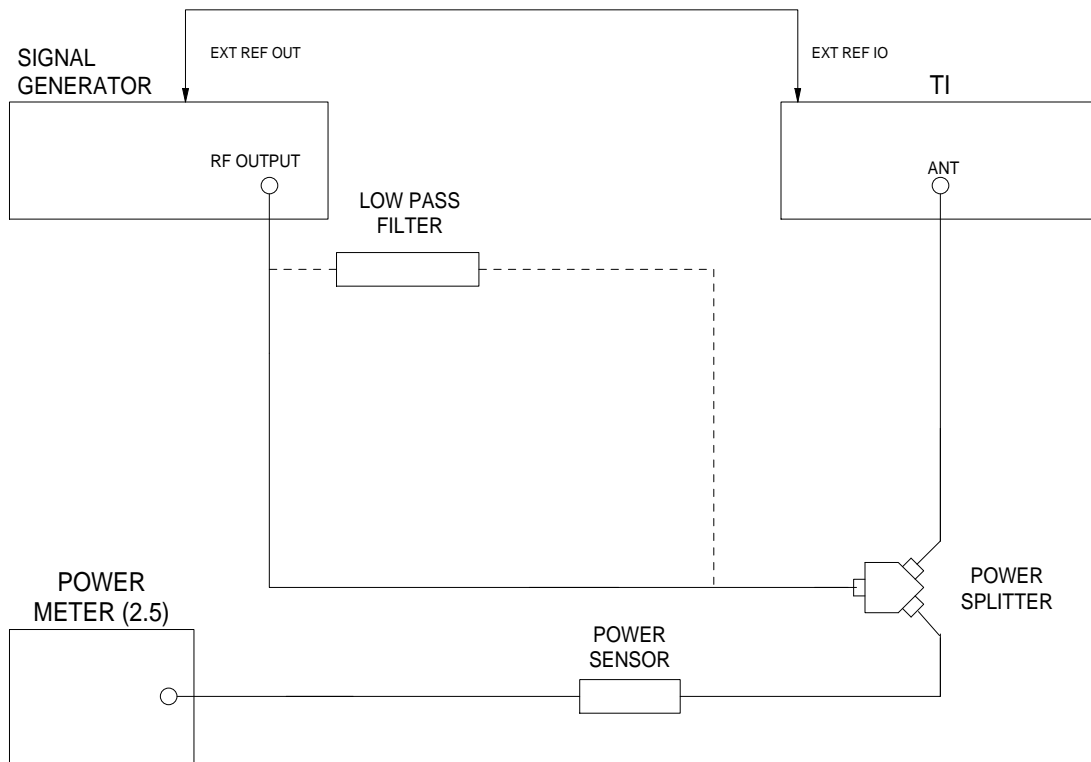

Figure 6.
4.17.2 Standardize Power Meter (2.5) and Power Sensor. Set the Power Meter (2.5) controls for a dBm measurement. Connect equipment as shown in Figure 6.